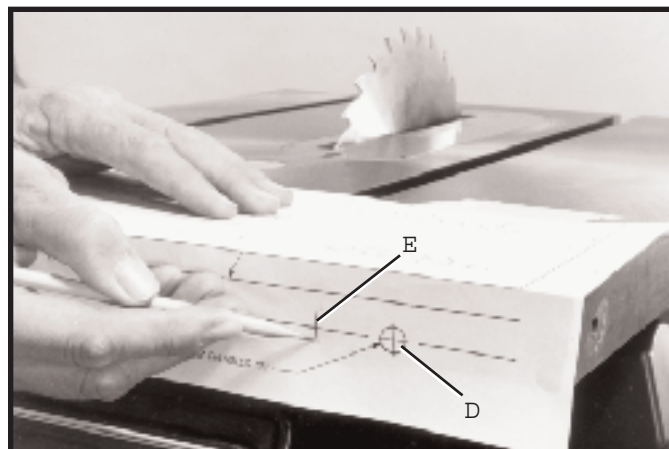

Fig. 22
D. If structural ribs or existing holes in the saw table prevent drilling holes at the locations shown on template at (D) Fig. 22, it will be necessary to move one or both of the holes, making sure the new holes are on the same center line as holes (D). Mark the location of new hole(s) (E) on the template, as shown in Fig. 22. Center punch the location of the new hole(s), remove the template, drill the new hole(s) in the table and proceed to STEP 9.